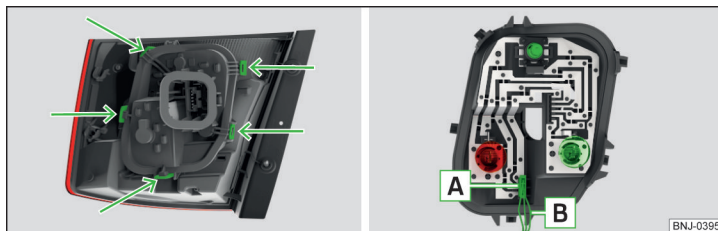

Fig. 292 Outer part of the lamp/holder with bulbs
- Unlock the bulb holder at the areas marked with arrows » Fig. 292 and remove from the light.
- Before inserting the bulb holder into the light, check that the connector **A** » Fig. 292 is fitted correctly between the light and the bulb holder.